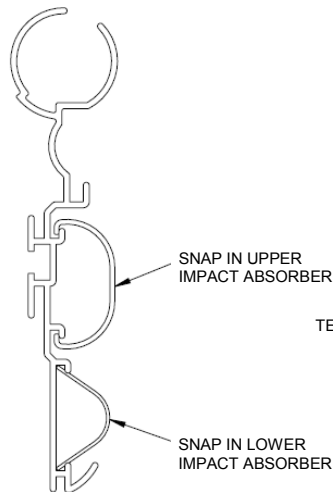

Figure 7
- ☒ A minimum of 4" from the end of the retainer at splices to avoid interference with splice hardware (Figure 7, page 3)
**STEP 9.** When splicing is required always locate the splice joints a minimum of 4" from mounting bracket locations. For additional splicing detail see Figure 7 below. Offset the butt joint in the cover, handrail grip, accent strip, aluminum retainer, and impact cushion (See Typical Assembly Illustration, page 1)